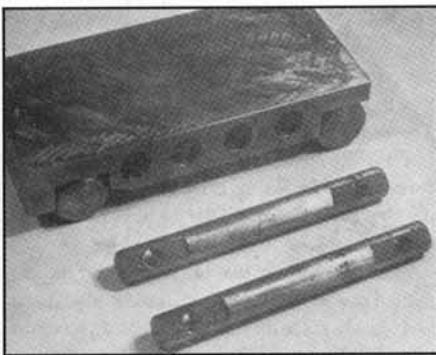

Fig. 1
result is shown in Fig. 1.
The 1/16 in. x 1/16 in. chamfer to the right hand groove in Fig. 1 is needed when the sine bar is used in the near
**General Arrangement Fig. 1**
Figure 1 shows the general arrangement of the Sine Table, it will be seen that it consists of a base to which is pivoted, by a substantial bolt, the table itself. Attached to the table on the same centre-line as the pivot bolt is a setting pin, the height of which from the base determines the angle of the table. The slot in the base directly below the setting pin accommodates a bolt to hold the length bar upright under the pin. The length bar remains clamped in place during cutting, thereby giving additional support. Braces may also be attached between table and base using holes tapped in their edges. These tapped holes serve to secure stop plates, alignment aids or clamping surfaces as required. Since the table surface will be machined after assembling to the base, parallelism is automatically attained. The large central web on both base and table help alignment as well as giving support.
Assemble table and base as in Fig. 1, tighten the clamping bolt lightly so that the table becomes stiff to move. Place on a surface plate and use a scribing block or height gauge to check when the centre of the clamping bolt and the centre of the setting pin are on the same horizontal line. To do this measure the height from the surface plate to the top of the clamping bolt head then subtract half the diameter of the head.